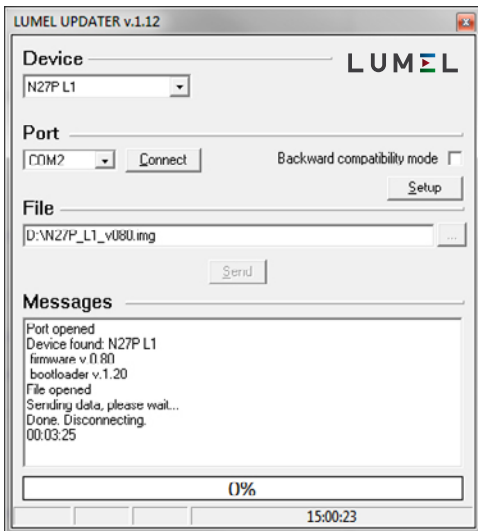

Figure 12. Main window of firmware updating software
Then, from the menu at the top of the application, select Update Firmware. Application LUMEL UPDATER (LU) will appear (Figure 12). In this application, select the correct serial port on which N27P meter is installed and press the *Connect* button. In the *Message* window actual infor-